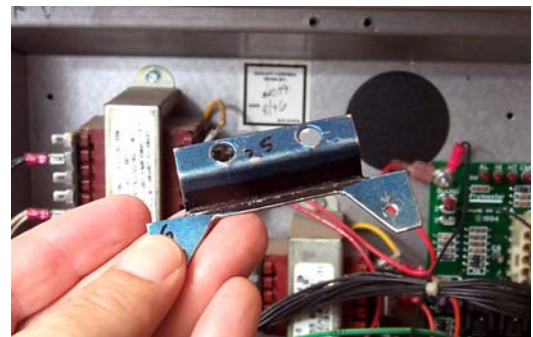

Figure 2: Use the bracket as a template to drill two 1/8 holes at the top of the controller box.
6. Use the provided bracket as a template and drill two 1/8" holes in the top of the controller box to fasten the speaker bracket. See Figure 2.